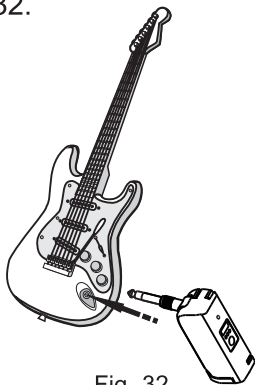

Fig. 32
(E) Plug the 6.3 Ø phone plug into any guitar, keyboard or other musical instrument output jack, Fig. 32.